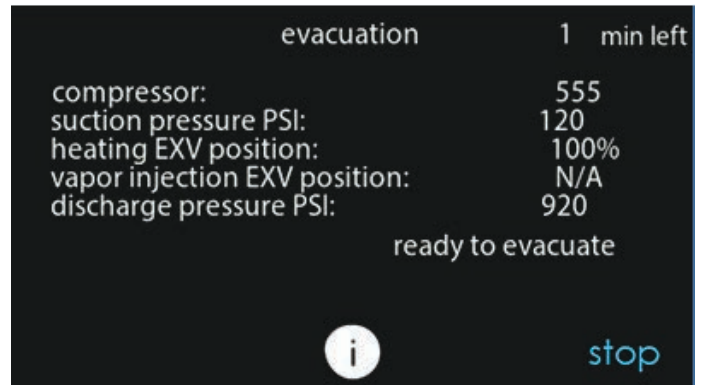

Fig. 28 – Evacuation Status Screen
5. Begin evacuation or refrigerant recovery as required for the procedure after Infinity® System Control indicates the EXV is open. Power may be removed from heat pump after the Infinity® System Control indicates “READY TO EVACUATE.” See Fig. 28.